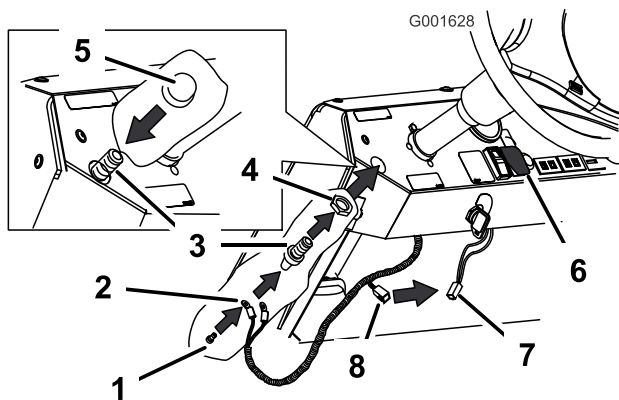

Figure 16
2. Remove the horn button cap and thread the nut onto the exposed threads of the switch (Figure 16).
3. Connect the white and red wires at the end of the wiring harness to the back of the horn switch using the two screws included (Figure 16).
4. Move the switch assembly under the dash and push it through the drilled hole (Figure 16).
5. Screw the horn button cap onto the switch threads to secure the assembly to the dash (Figure 16).
6. Reach under the dash and verify if there is a wire lead as shown in Figure 16. This comes from the main harness under the light switch. If there is a wire lead, connect it to the new harness.